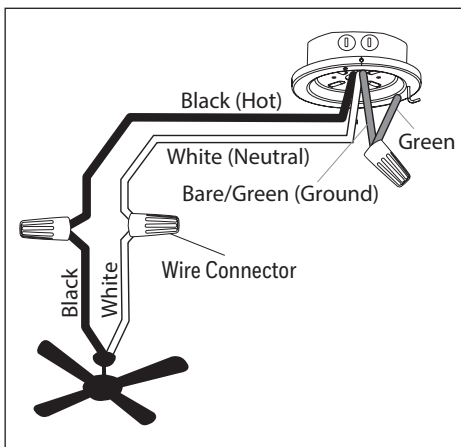

Figure 4.1
1. Use wire connectors to connect the fan wires to the power supply wires according to the wiring diagram and the following instructions (Figure 4.1):